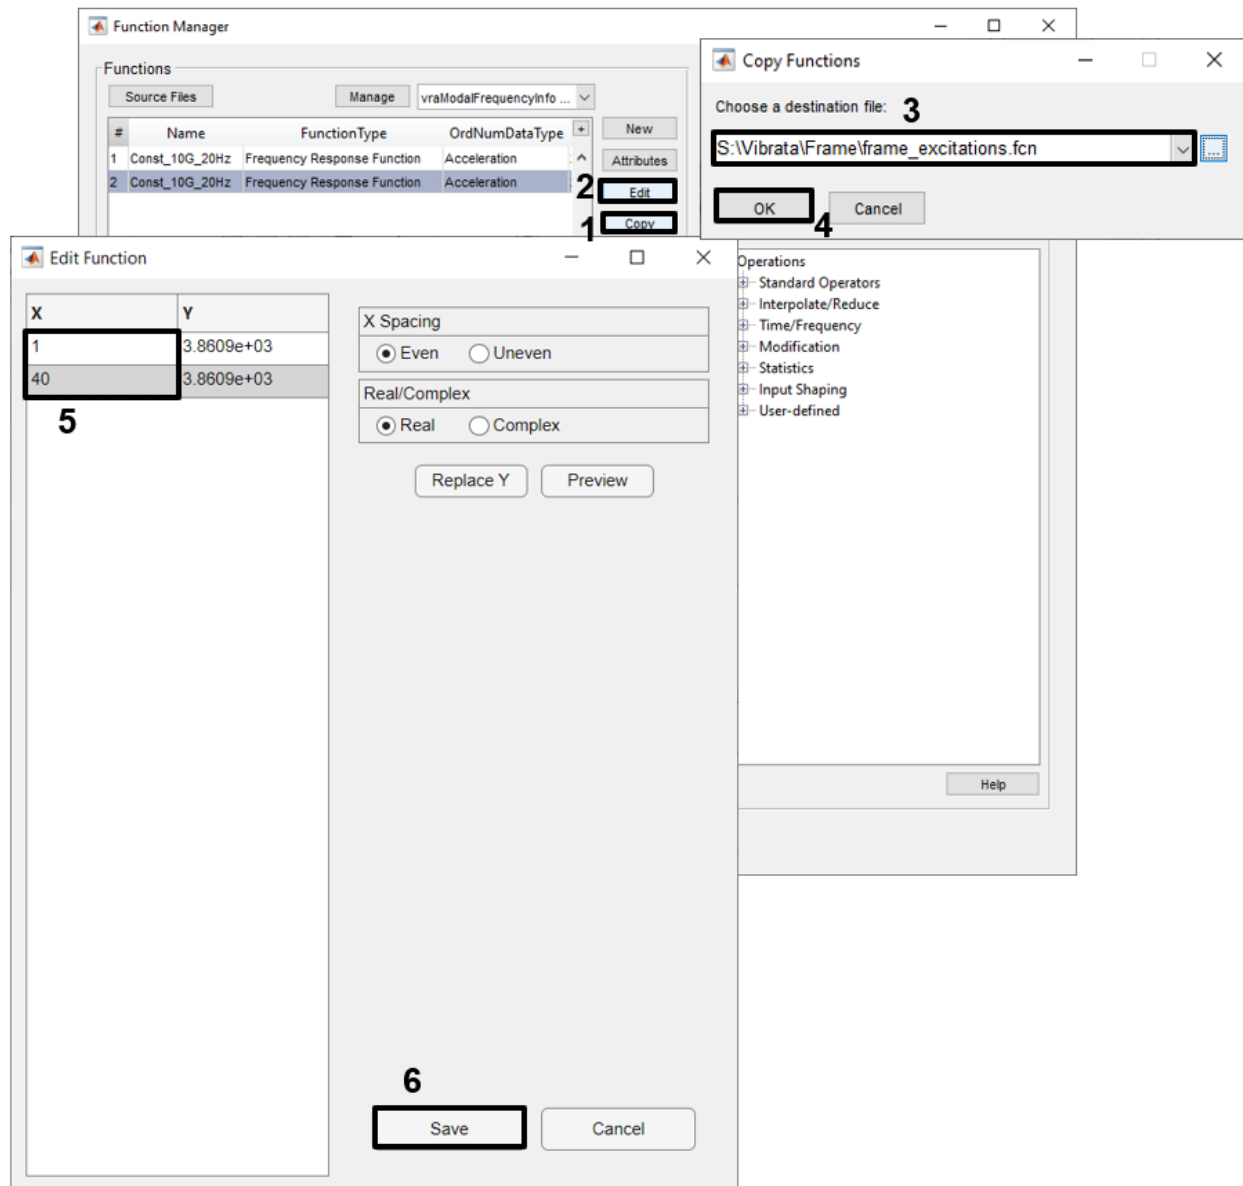

Figure 4-28. Change the copied function to have a range from 1 to 40 Hz.
- b. Select the original function and click **Copy**. Store the new function to a new function file in the *frame* folder; call it "frame_excitations.fcn." Select the new function and click the **Edit** button. On the *Edit Function* dialog, change the second X-value from 30 to 40 and click **Save** (Figure 4-28).